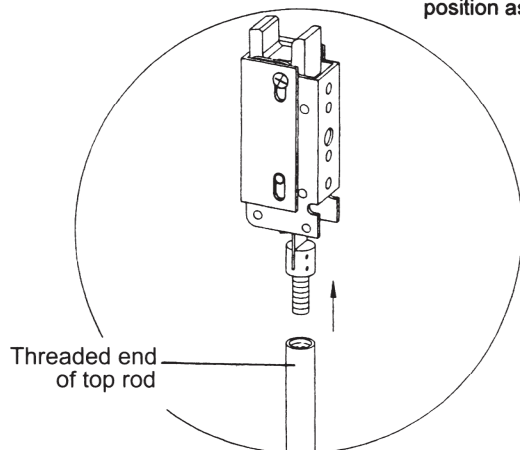

Figure 9
- Screw the threaded end of top rod into top latch assembly completely. (See Figure 9.)
Note : If the hole of top rod connector does not match in alignment with the mounting hole of bit glide plate, adjust the height of top rod as shown in Figure 9 or re-cut the length.